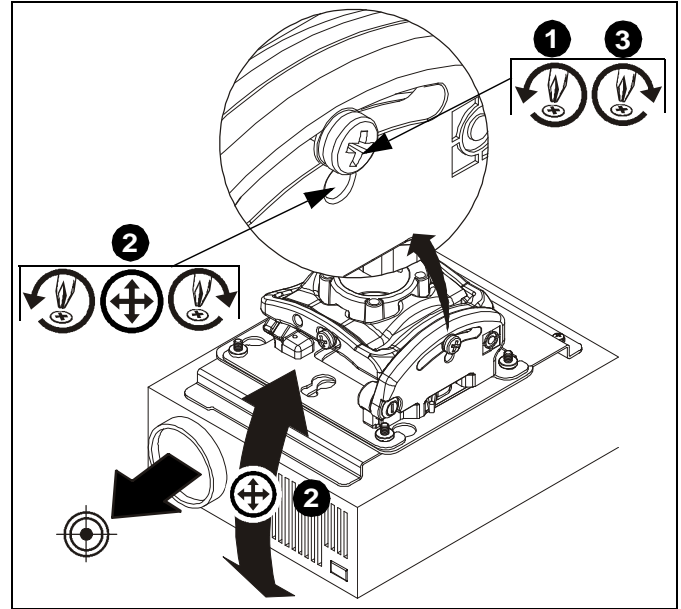

Figure 13
1. Loosen PITCH adjustment locking screw using a #2 Phillips screwdriver. (See Figure 13)